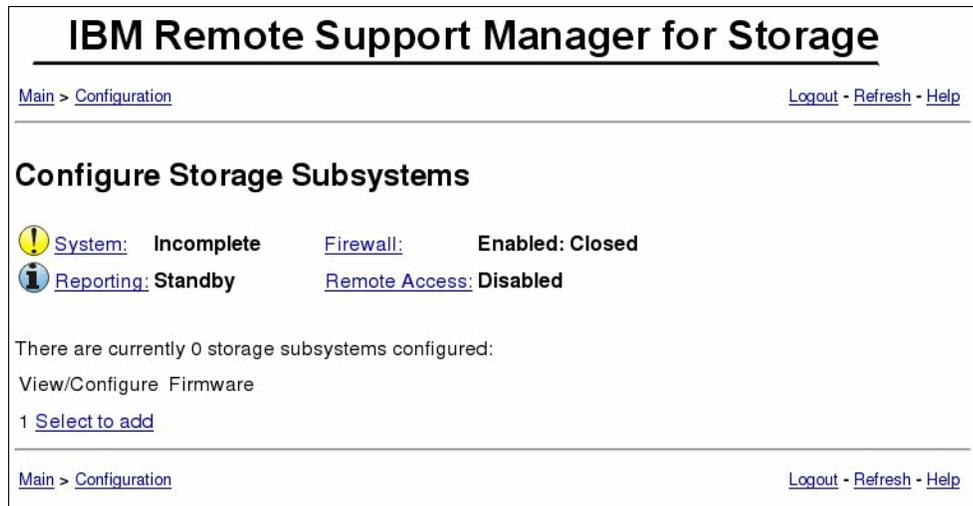

Figure 6-68 RSM configure storage subsystem
13. Click **Select to add** to define a storage subsystem in RSM (Figure 6-68).